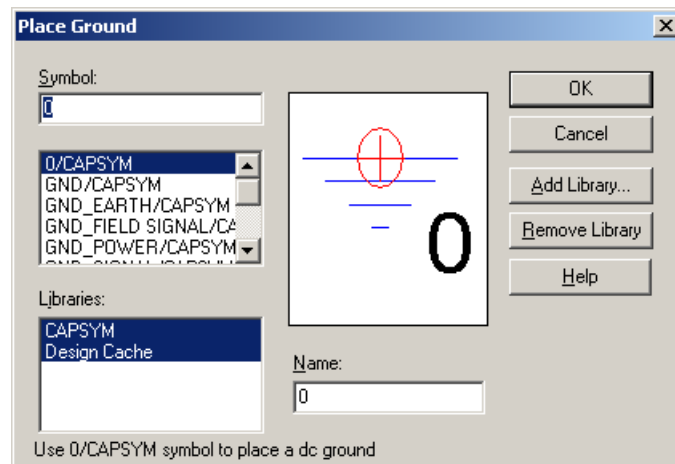

Figure 10: Dialogue box for adding a ground connection.
- Choose Place > Ground... from the menu bar or click the Place ground connection button on the toolbar, which brings up the dialogue box shown in figure 10.